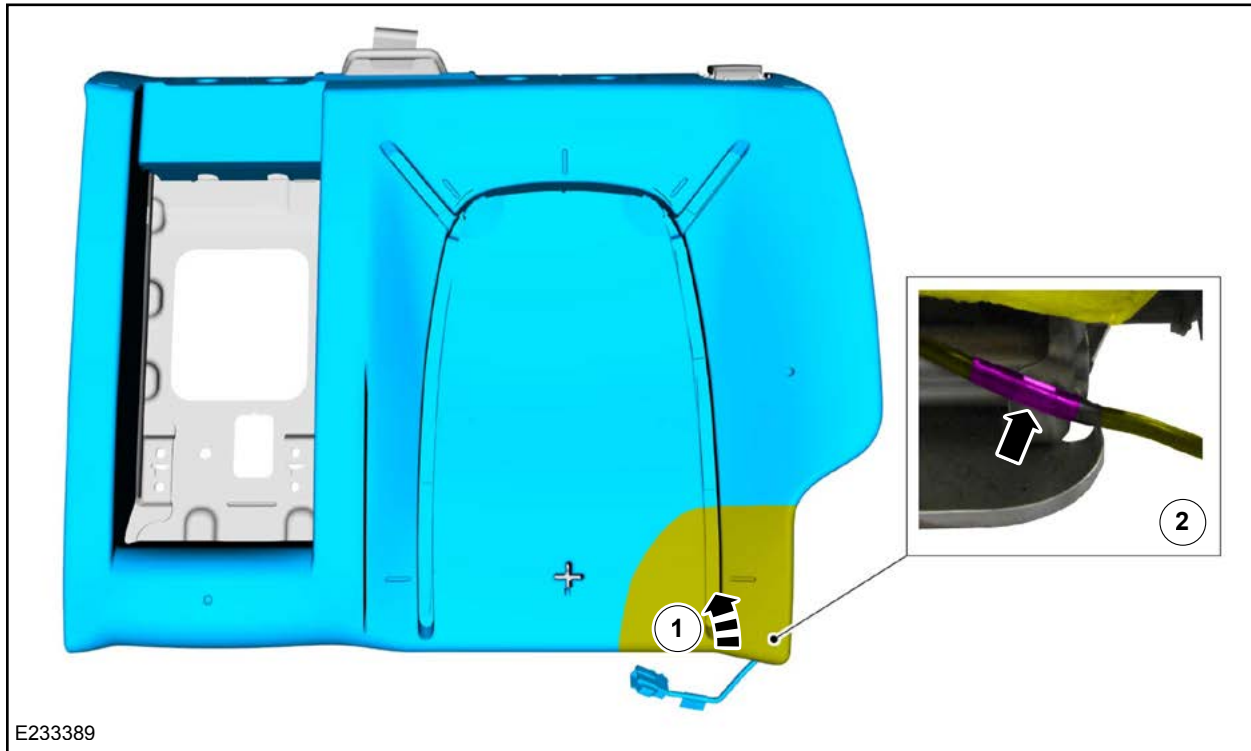

FIGURE 9
11. Lift the frame upward and detach the wire harness retainer, if equipped. See Figure 9.